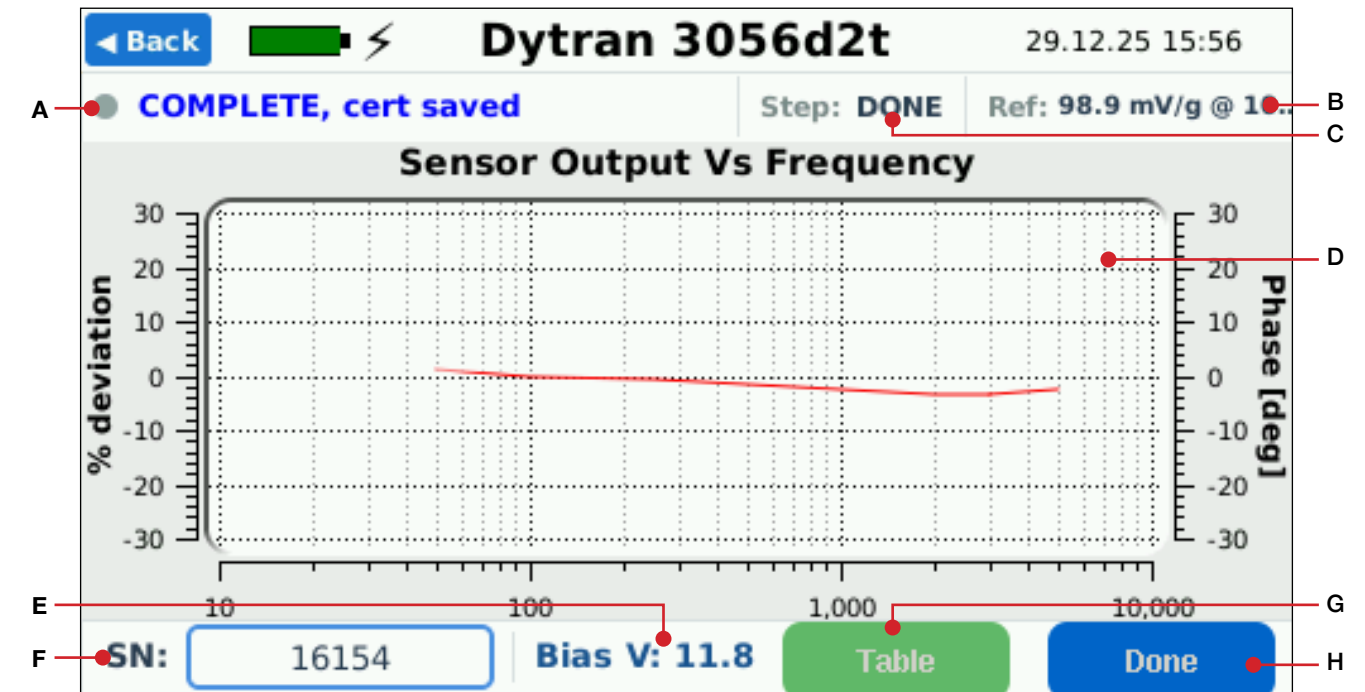

Figure 18
- ii. Select the **Table/Graph button** to toggle between graph view (*Figure 18*) and table view (*Figure 19*). Table view shows each of the test points for the test. When the test is in progress, the test point data will fill in, one row at a time. The test is complete when all data is filled in.